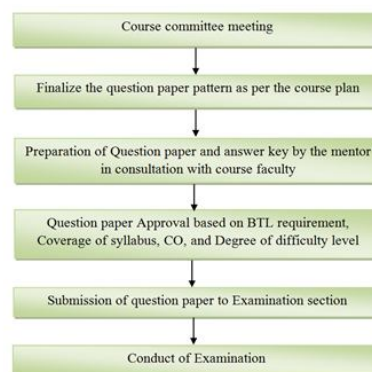

Figure 2.4 Process for question paper setting
- The evaluated answer scripts (Internal assessment) are distributed to the respective students and the scheme of evaluation and key are explained. The process of question paper setting is given in Figure 2.4.